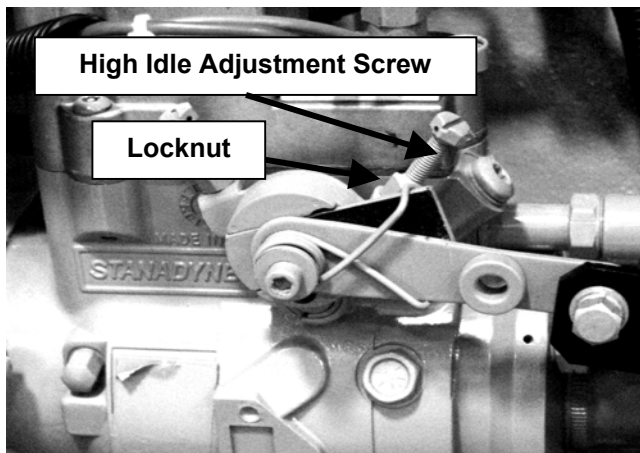

Figure 2 High Idle Adjustment Screw
2. Locate the "High Idle Adjustment Screw" on the fuel injection pump (FIP) assembly (Figure 2).